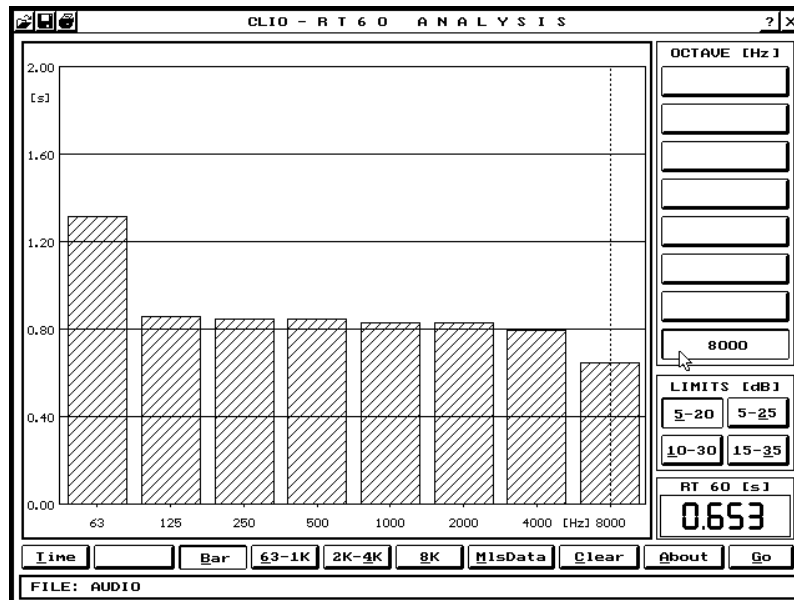

FIGURE 14.3 – The T60 bar display
- Bar** Displays a global representation of the executed measurement with a bar diagram; the calculated reverberation times are plotted towards frequency. See Figure 14.3.